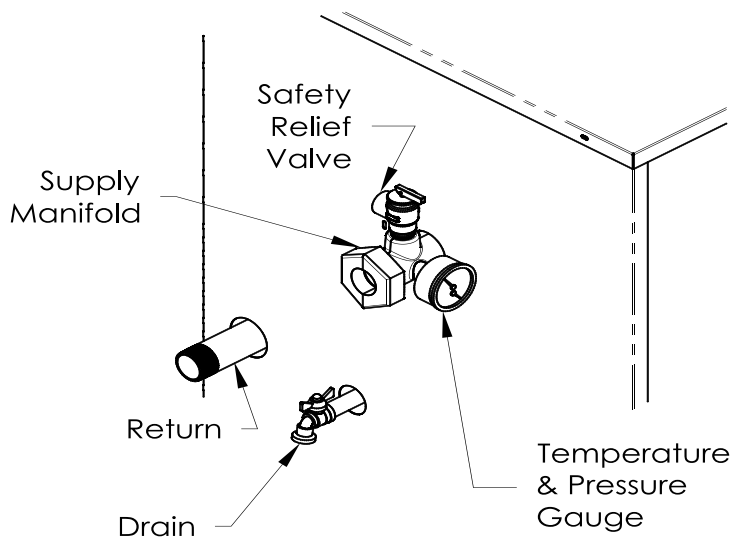

Figure 6-1: Near Boiler Piping
- C. Install safety relief valve. See Figure 6-1. Safety relief valve must be installed with spindle in vertical position.